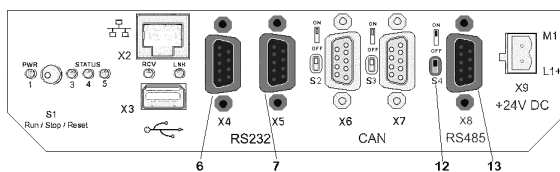

Fig. 10: Serial interface
- RS 232 [ X4:COM1, X5:COM2] (Fig. 10/ Pos. 6 and Pos. 7).
- RS 485 [ X8:COM3] (Fig. 10/ Pos. 13). This interface is isolated
*Will switch on the attached terminal resistance [S4] (Fig. 10 / Pos. 12) can to lead to that the RS485 data receiver faulty signs on the RS485 interface recognizes !*